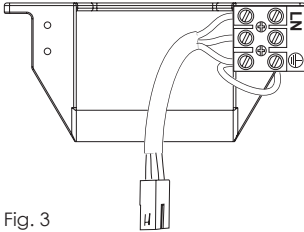

Fig. 3
3. Connect the supply wiring Active, Neutral and Earth into the terminal block on mounting bracket. (Fig.3)